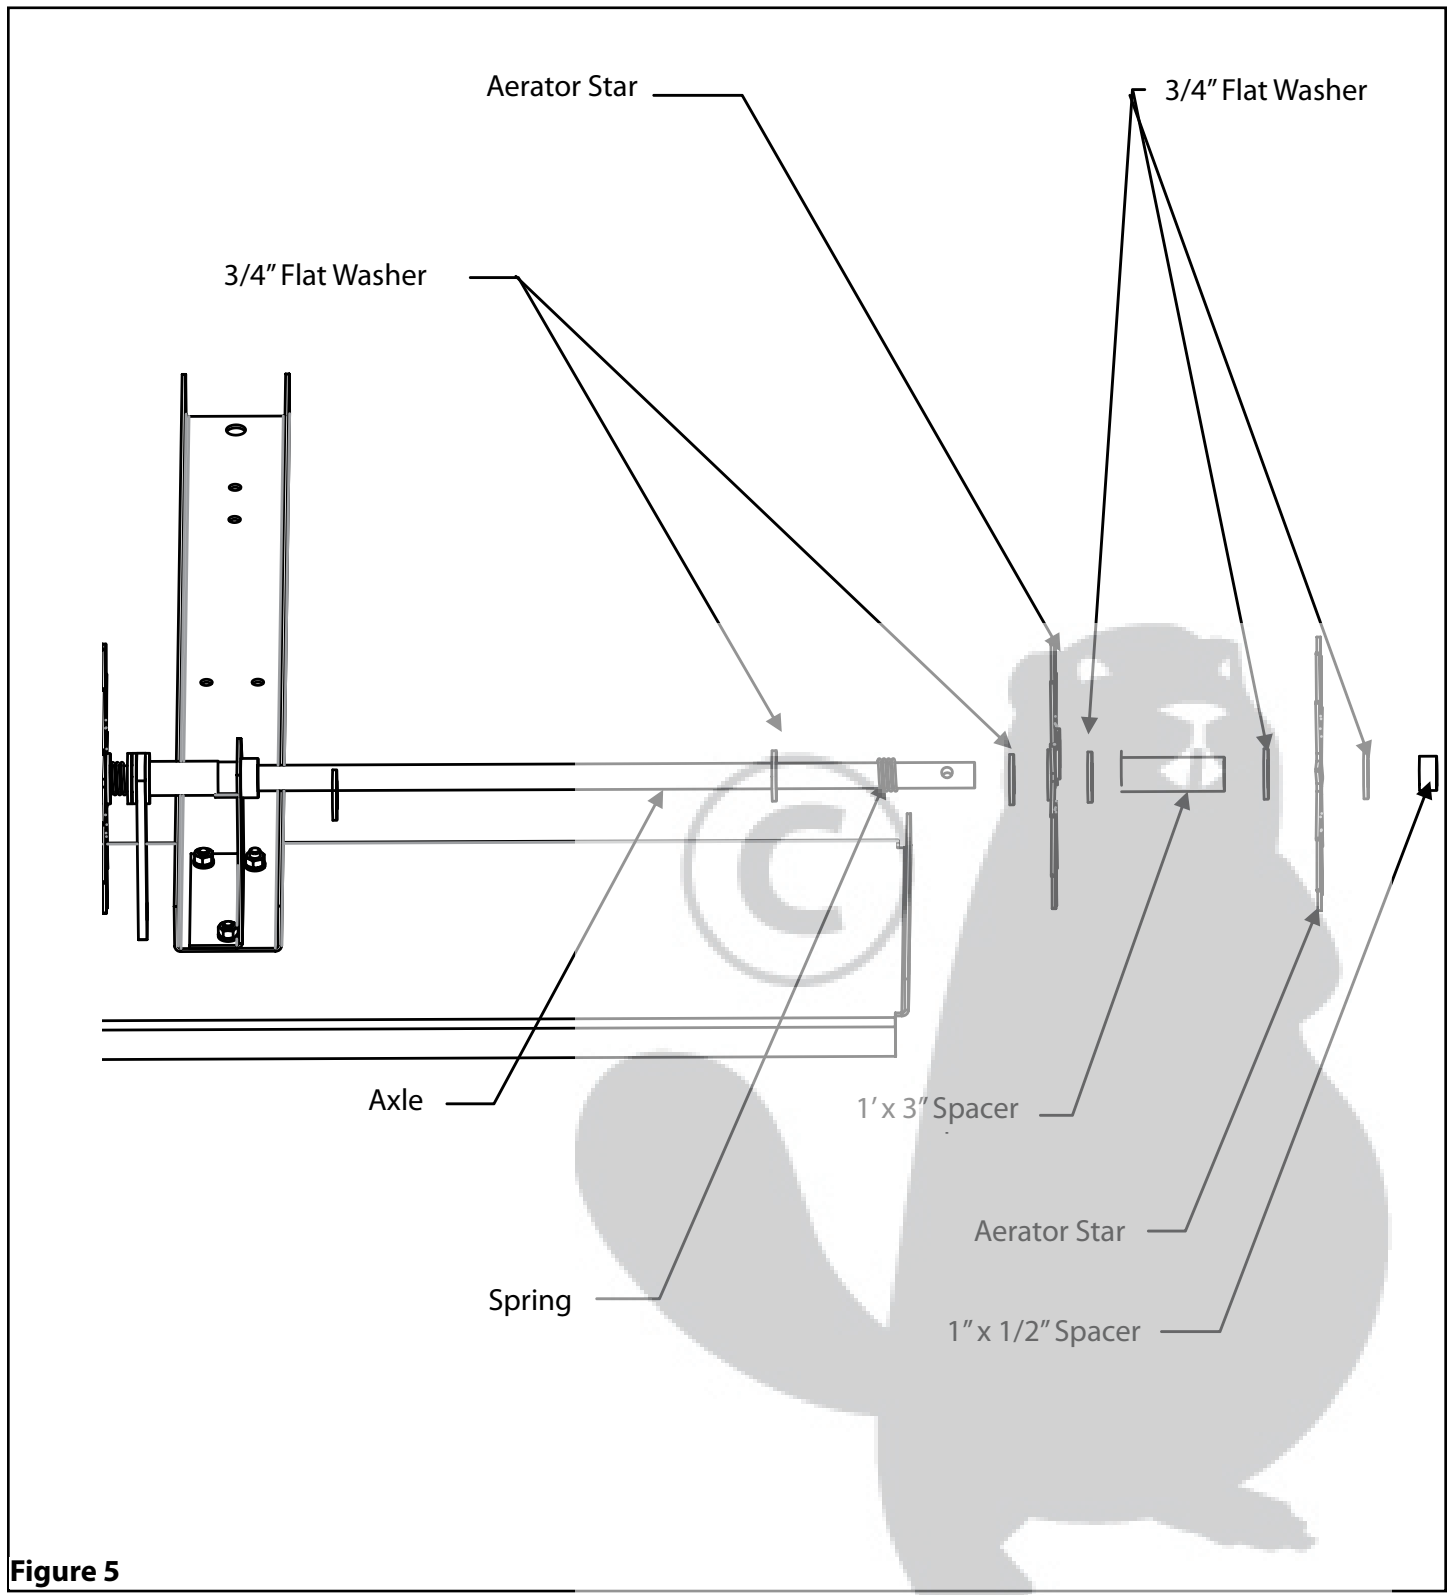

Figure 5
5. . On the long side of the Axle place a 3/4" Flat Washer followed by an Axle Spring and then another 3/4" Flat Washer. Followed by a 3/4" Flat Washer an Aerator Star, another 3/4" Flat Washer and a 1" x 3" Spacer. Repeat the process five more times. Then place a 1" x 1/2" Spacer onto the Axle. See Figure 5.